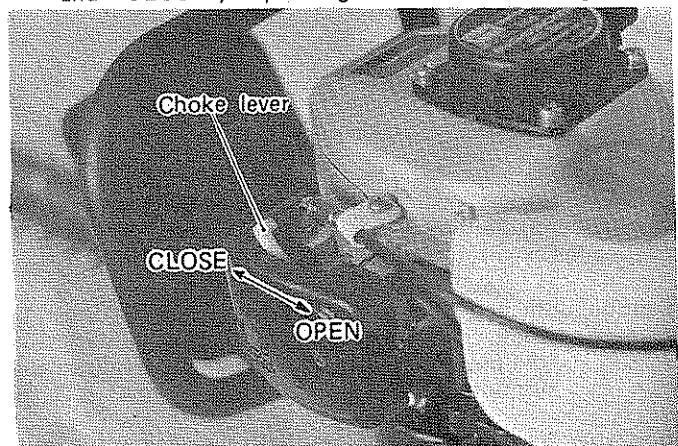

Figure 2
2. The choke control is a "Lever" type. (See. Figure 2). To choke the engine, push the choke lever to "Close" position. NOTE: If the engine is warm, it may be started with the choke lever mid-way between "OPEN" and "CLOSE", depending on the individual engine.